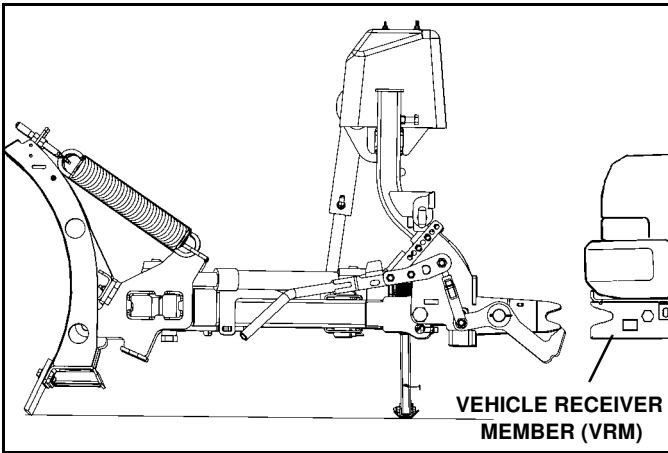

Figure 1-22
1. Drive truck up to plow. (See Figure 1-22).